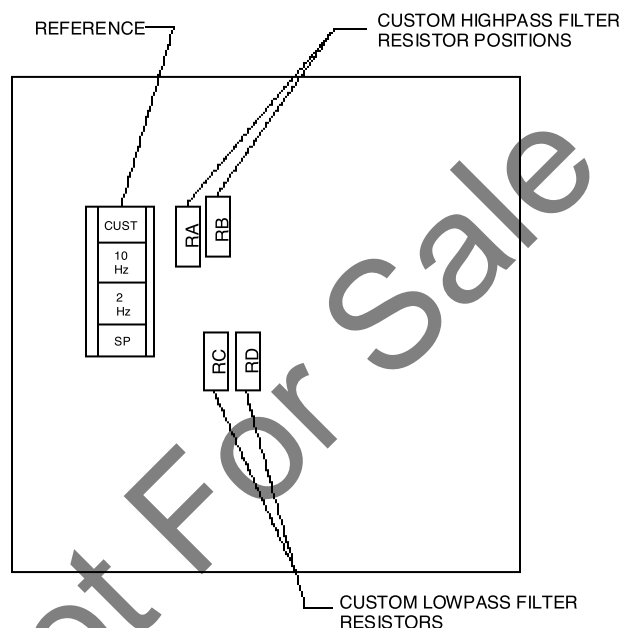

FIGURE 6-2: CUT-OFF RESISTOR POSITIONS
4. Install the resistors. (See Figure 6-2 for resistor locations).
3. Install the resistors. (See Figure 6-2 for resistor locations).